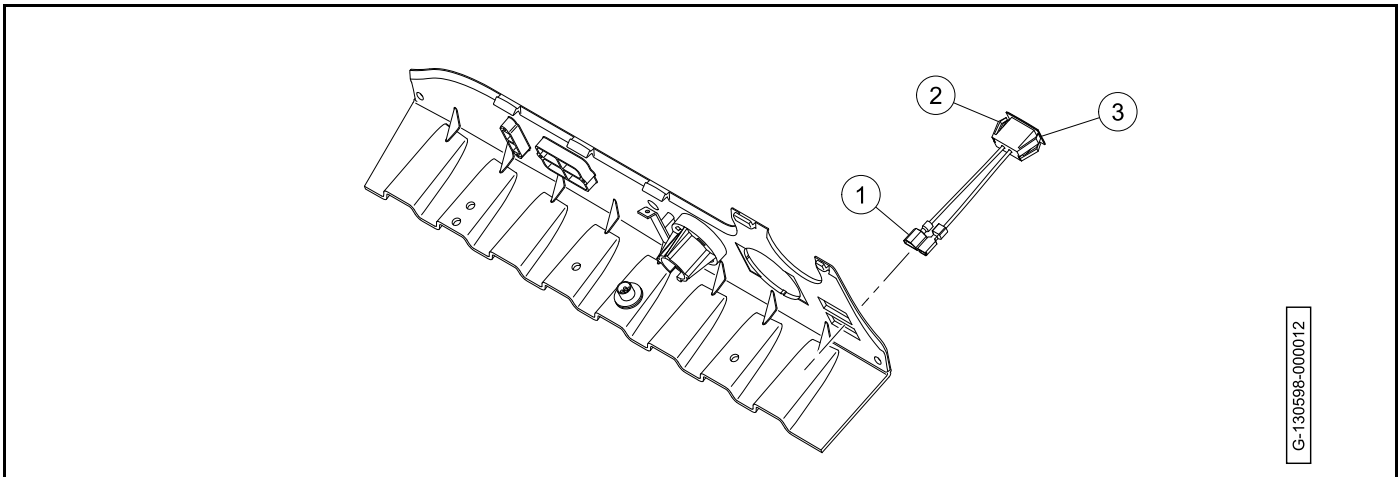

Figure 20-38 Malfunction Indicator Light (MIL)
3. Disconnect the wires (1) (**Figure 20-38, Page 20-34**). Do not allow wires to touch.
4. Push the retaining tabs (2) and remove the malfunction indicator light (3) from the instrument panel.
1. Push the malfunction indicator light (MIL) (1) into the hole in instrument panel until retaining tabs engage (**Figure 20-38, Page 20-34**).